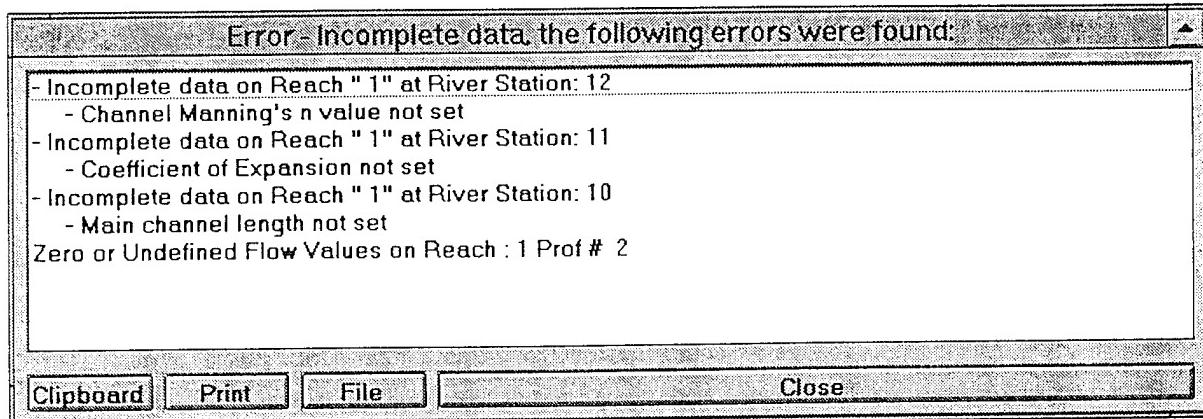

Figure 10.1 Data Completeness Checking Window
1. Data completeness. These data checks insure that all of the required data exists for the entire data set. If any missing data are found, a complete list of all the missing data and their specific locations is displayed on the screen. An example of this is shown in Figure 10.1.